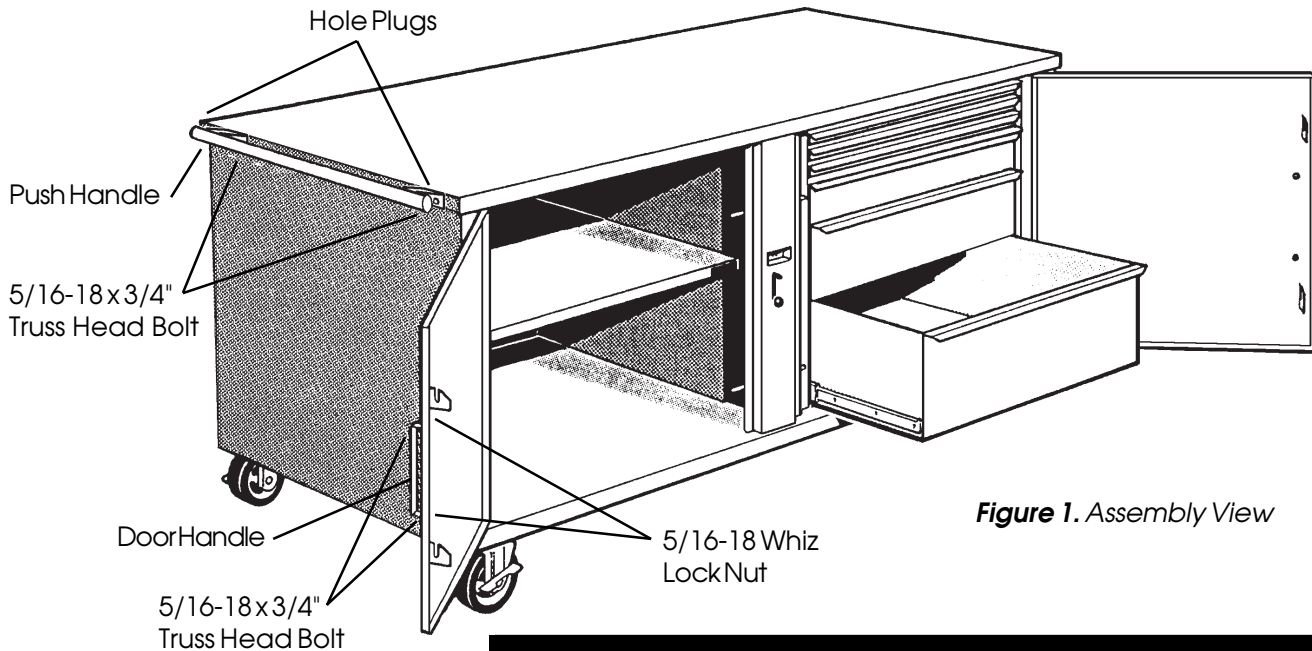

Figure 1. Assembly View
1. Remove the handle kit from the cabinet. Attach the Door Handles (*Figure 1.*). Insert one Hole Plug into each end of the Push Handle then attach the handle to the end with the swivel casters.